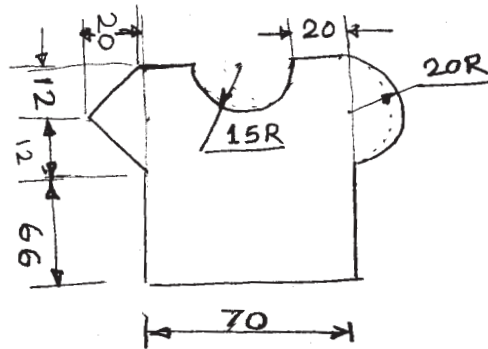

Fig. 2, Q. No. 4(b)
b) Write a complete APT part program to generate end profile for the component shown in Fig. 2. Use post processor call statement MACHINE MILL, Draw the tool path and take raw material stainless steel blank of 160 mm × 100 mm, spindle speed 800 RPM and feed 0.15 mm/rev. all dimensions are in mm. [10]